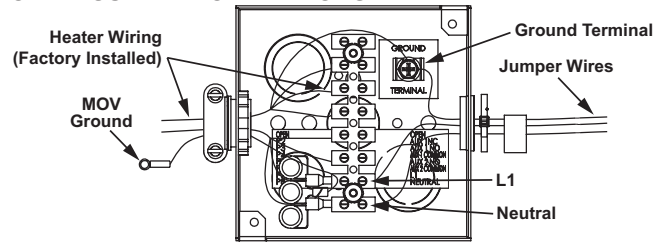

Figure 49
3. Connect the 120VAC hot wire from the power supply to the black jumper wire or the terminal block location marked "L1" inside of the junction box located on top of the water heater. If the black jumper wire is used, make the connection inside of the junction box with a properly sized wire nut and wrap electrical tape around the wire nut and wire end. See junction box Figure 49 and wiring diagram Figure 58 on page 64.
4. Connect the 120VAC neutral wire from the power supply to the white jumper wire or the terminal block location marked "Neutral" inside of the junction box located on top of the water heater. If the white jumper wire is used, make the connection inside of the junction box with a properly sized wire nut and wrap electrical tape around the wire nut and wire end. See junction box Figure 49 and wiring diagram Figure 58 on page 64.
5. Connect the ground wire from the power supply to the green jumper wire or the ground terminal location inside of the junction box located on top of the water heater. If the green jumper wire is used, make the connection inside of the junction box with a properly sized wire nut and wrap electrical tape around the wire nut and wire end. See junction box Figure 49 and wiring diagram Figure 58 on page 64.